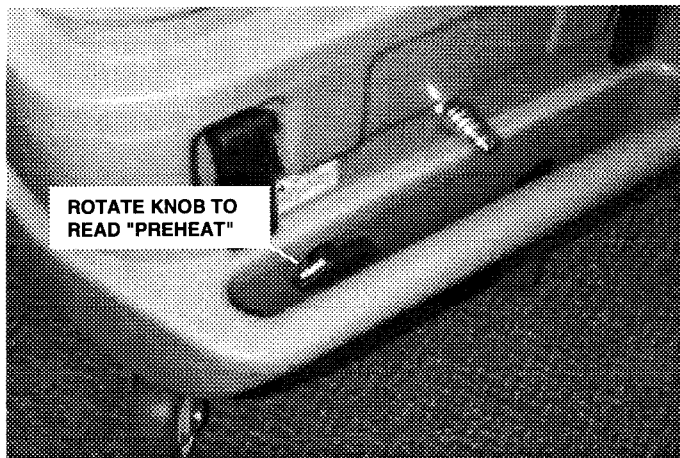

Fig. 5
5. **Preheat solution:** To maintain or to increase solution temperature before operating extractor, rotate "PREHEAT/CLEAN" knob at front to read "PREHEAT". Activate "PUMP" and "HEATER" switches. Solution temperature will rise approx. (1°F - .55°C) per minute (max. temp. 170°F, 77°C). (Figure 5)